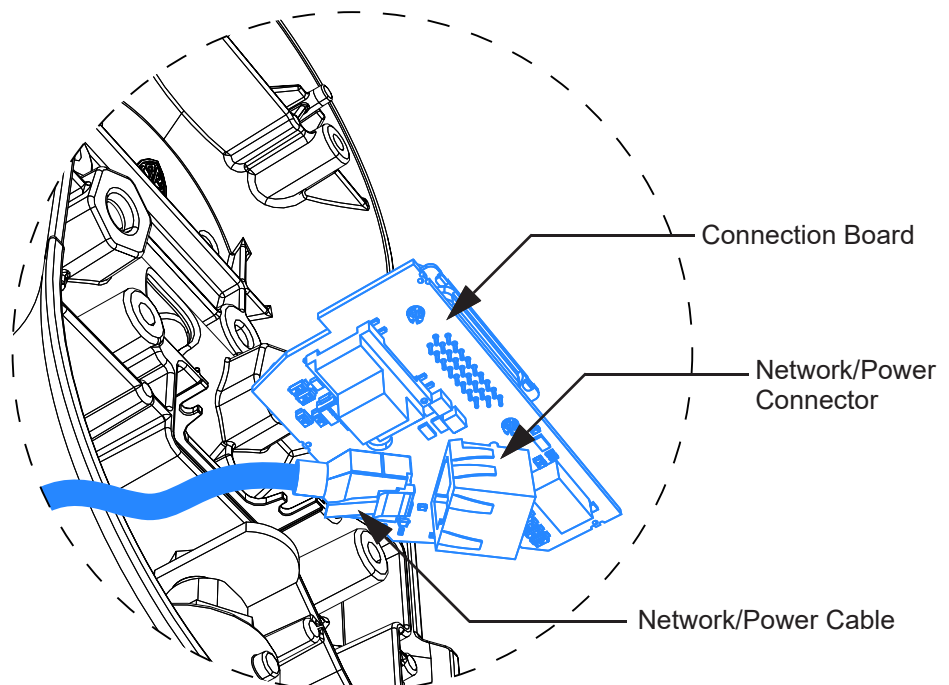

Figure 3-68 Cable Connection
- Step 10** Plug in the cables to the connection board see **Figure 3-68**.